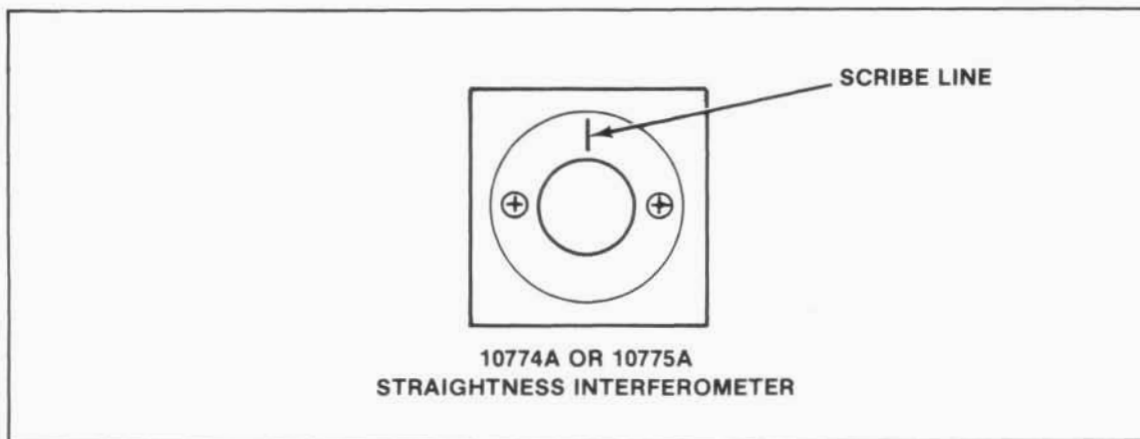

Figure G-9. HP 10774A or HP 10775A Interferometer Scribe Line
6. Rotate the interferometer's bezel until the bezel's scribe line is oriented perpendicular to the aperture slot on the Straightness reflector. See *Figure G-9*. Two beams should now exit the interferometer in a plane perpendicular to the aperture slot on the reflector.
- f. Rotate the Interferometer's bezel to bring the scribed line parallel to the Straightness Reflector's aperture slot. See *Figure G-9*. Turn the bezel until the dots overlap on the reflector side of the interferometer. Use a card to locate the return beam and make the appropriate angular adjustments to the reflector to get the beam back through the interferometer and the beam splitter.